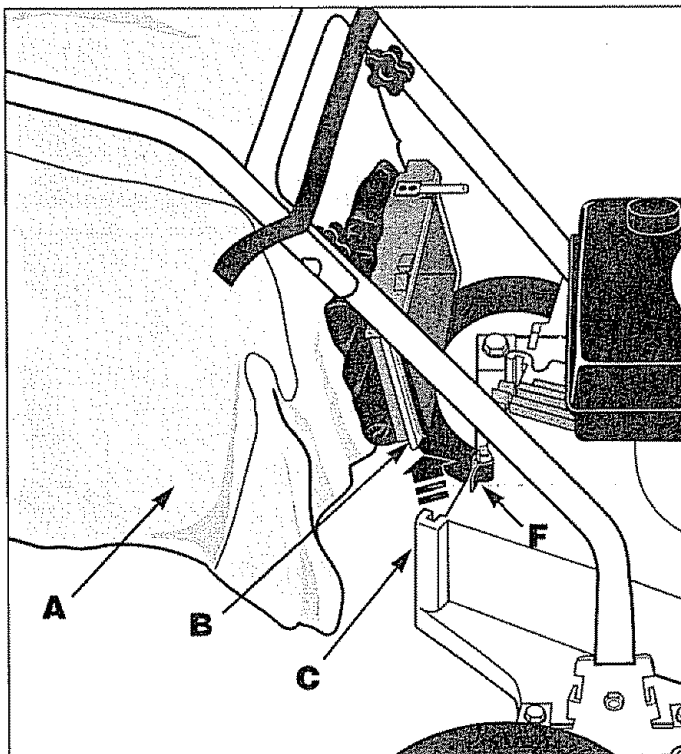

Figure 6: Remove collection bag.
2. Pull and then turn the retaining knob (F in Figure 6) so that it clears the edge of the bag inlet adapter (B) and the tab rests on the upper housing. Grasp the pull strap and slide the bag inlet adapter (B) out of the slots in the discharge opening (C).
3. Hold the collection bag (A) with the inlet opening upright so that material does not fall out, and slide the straps off the handlebars.